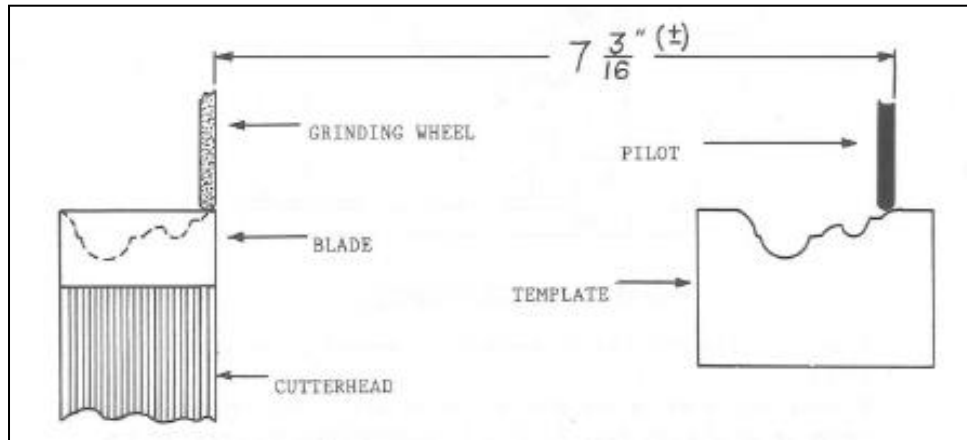

Figure 3
1. Put the arbor on the carriage (15) and check for axial clearance. If necessary, make the required adjustments by the socket cap screw on the left side of the black knob (18);
2. Lift-up the half-nut (13) to set the carriage at its starting point and align the template;
3. Fasten the template to the template-rest and make sure of its alignment. (Fig. 3).